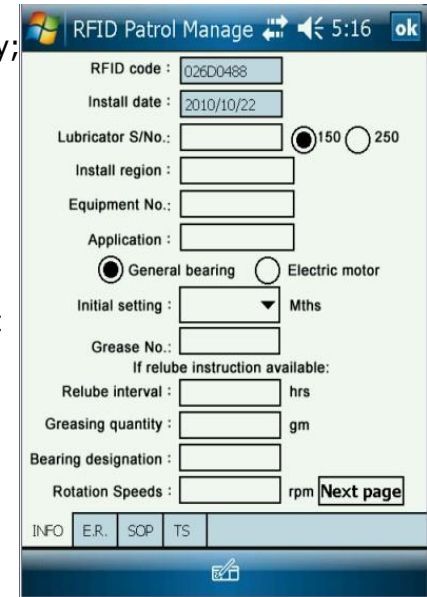

Fig. 1
- ❶ Turn on your HP iPAQ, go to **START**, click "Guardwatch® Software" to get the program started.
- ❸ Plug in Easylube® RWD145B-EL RFID reader into HP iPAQ, **COM1 is plug in** will appear on screen.
- ❹ Click **START** button, **COM1 opened** will appear on screen. Your HP iPAQ is now ready for data entry.
- ❺ Sense Easylube® Reader to each Easylube® RFID tag systematically; On event if lube point data is not yet input, the **REGISTER** button will appear on screen.
- ❻ Click **REGISTER** button, **Registration table** will appear on screen (Fig.1), fill in lube point information as required.